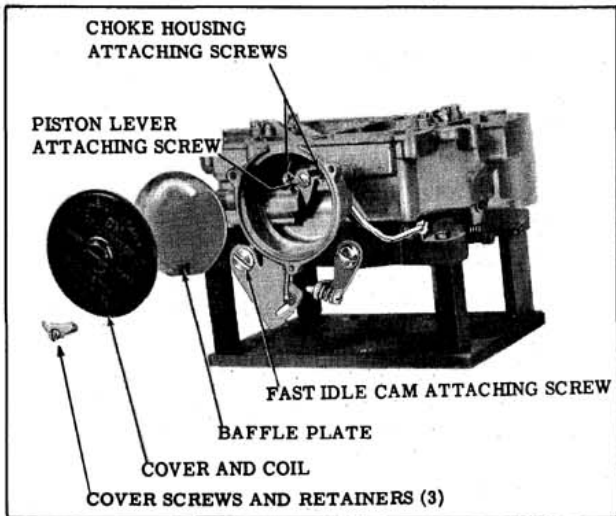

Fig. 4-56 Choke Assembly and Fast Idle Cam
13. Install the choke housing gasket, intermediate choke lever and shaft with linkage in the choke housing. (Fig. 4-56)